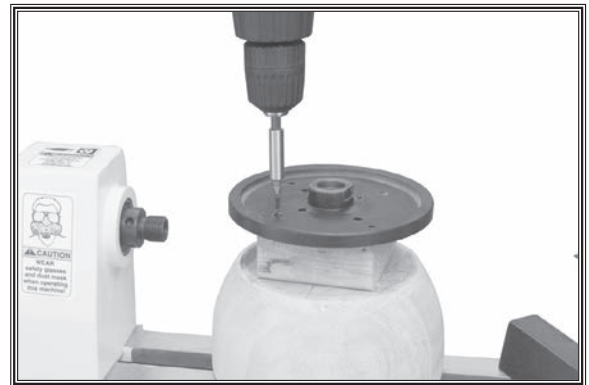

Figure 31. Typical attachment of faceplate to workpiece (shown with backing block).
2. Use the mark made from **Step 1** to center the faceplate on the workpiece back, and attach it with wood screws that do not have tapered heads (see **Figures 31 & 32**).